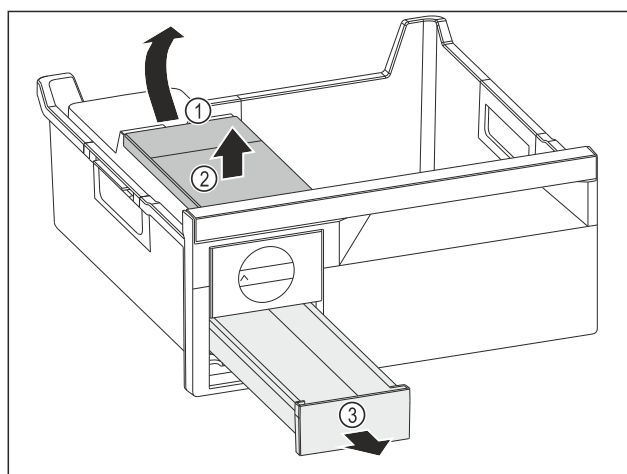

Fig. 85
- ▶ Removing the water tank: Lift the water tank by the recess Fig. 85 (1).
- ▶ Remove the water tank Fig. 85 (2) upwards.
- ▶ Remove the ice cube drawer Fig. 85 (3) to the front.